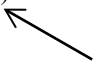

Fig.4-21 Mode Set for Receiver
□Setting of Melody Output Method (Select [□] in Fig.4-21)
□Display switching time for multiple ID's Set (Select [□] in Fig.4-21)
□ Display holding time for alarmed ID Set (Select [4] in Fig.4-21)
□ Confirm each melodies (Select [□] Confirm in Fig.4-21)
□ Push [Esc] in Fig. 4-21, and then CLONING MODE will be terminated.